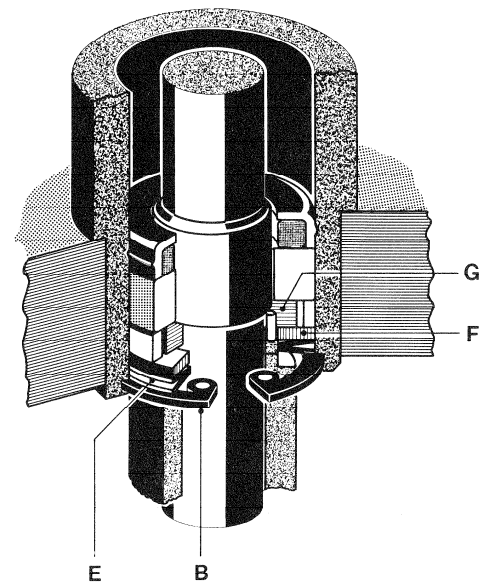

Fig. 3.5.-2
3.5. Capstan motor (fig. 3.5.-1)
– Pull shaft lock A carefully sideways (under high stress); fig. 3.5.-1. Take the rotor of the capstan motor out downwards.